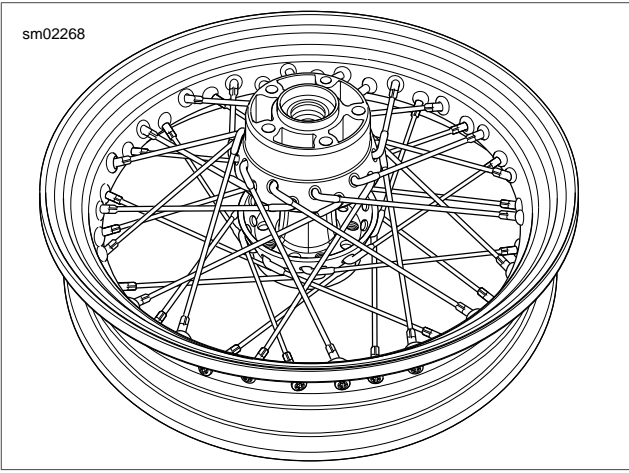

Figure 2-29. Wheel Completely Laced
4. See Figure 2-29. Install remaining nine upper row spokes.